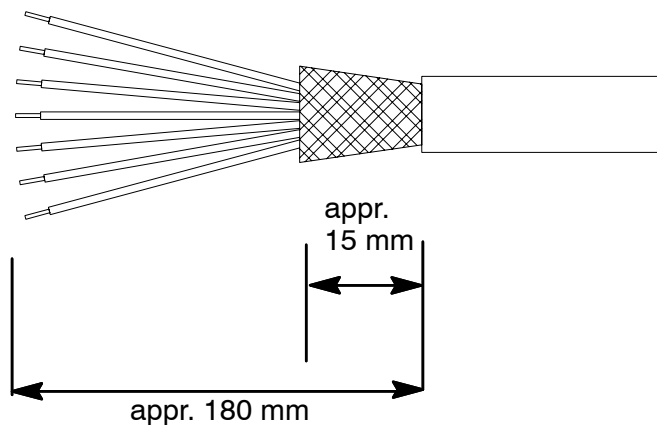

Figure 76: How to strip the connection cable
- Strip off the screening leaving a remaining section measuring approximately 15mm and strip off over the outer insulation (see Figure 76).